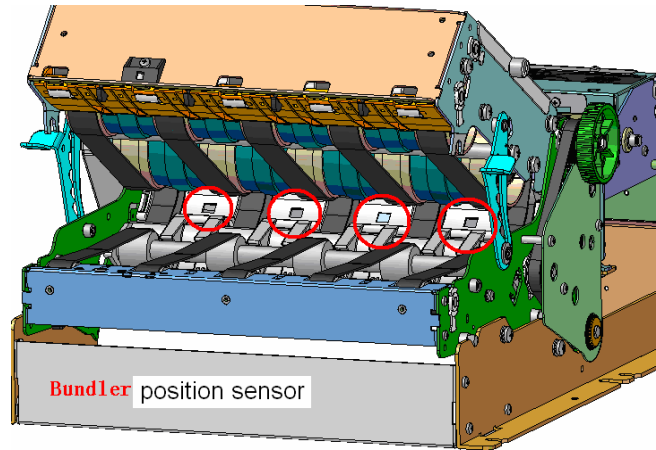

Fig.3.4.4 Bundler sensor 3
- ✧ Bundler position sensor: The reflection optical sensor is used to detect paper position in Bundler when Bundler presenting and holding paper. Four installation positions are set as shown in Fig.3.4.4 and also according to users' requirement.